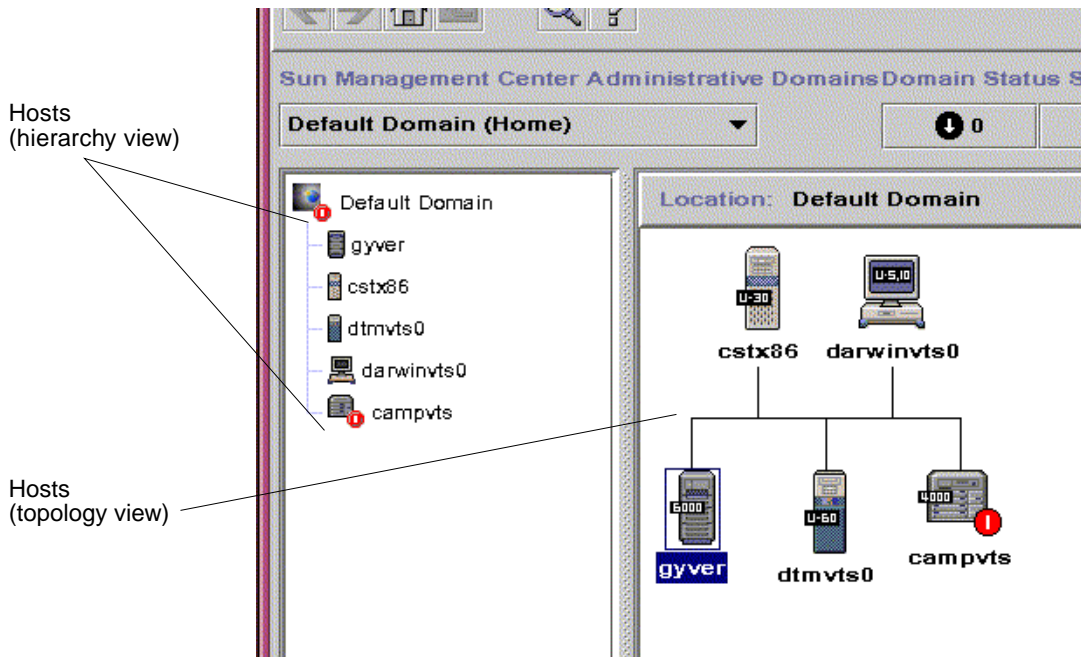

FIGURE 2-3 Hosts in the Sun Management Center Main Window
1. Locate the host you want to test in the Sun Management Center main window (FIGURE 2-3).